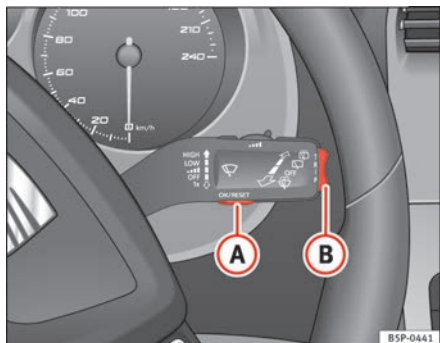
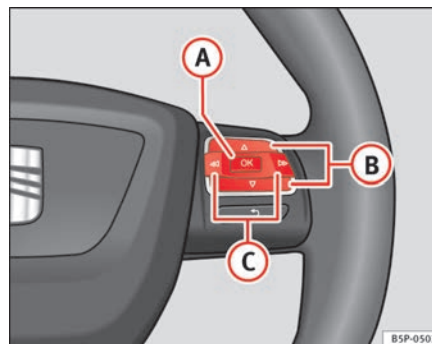

Fig. 43 Windscreen wiper lever: button A to confirm the menu selection and rocker switch B to change the menu
Fig. 44 Steering wheel controls: button A to confirm the menu selection and switch B to change the menu
- To access the “Configuration” menu, press button **(C)** ⇒ page 66, fig. 44 until the menu is displayed. Now you are in this menu.
- To change from one memory to another, briefly press button **A** ⇒ page 66, fig. 43 ⇒ page 66 on the windscreen wiper lever or the **OK** button on the multifunction lever ⇒ page 66, fig. 44 ⇒ page 66 while the ignition is switched on. ▶
The following data can be viewed on the multifunction display using the rocker switch **(B)** ⇒ page 66, fig. 43 ⇒ page 66 on the windscreen wiper lever or by pressing button **(Δ)** or **(▽)** ⇒ page 66, fig. 44 on the multifunction steering wheel*.